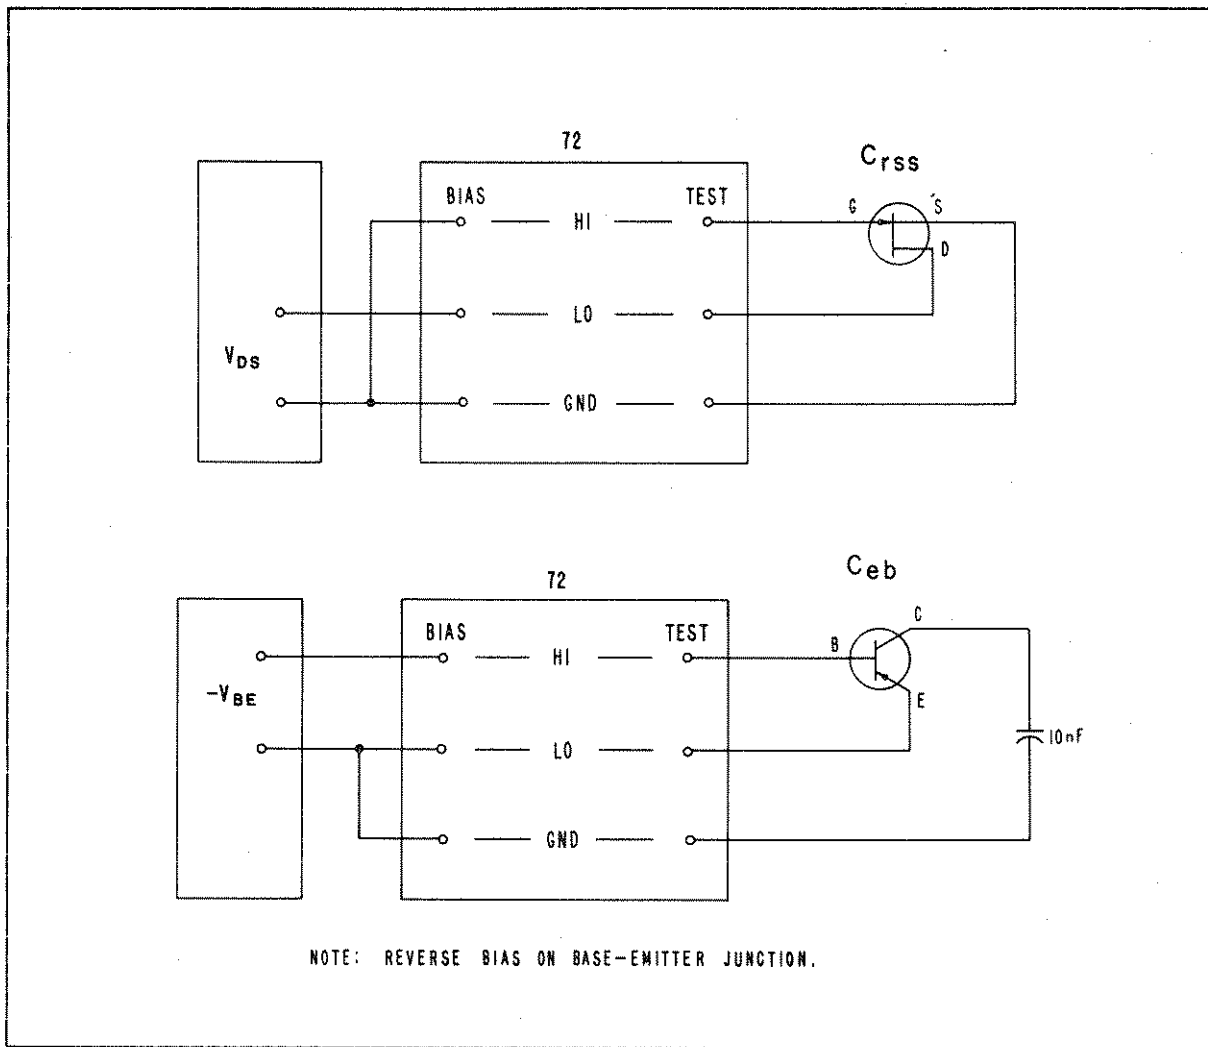

Figure 2-3. Transistor Capacitance Measurements: C_{rss} and C_{eb}
A. Capacitance (Three Terminal). See Figures 2-3 and 2-4.